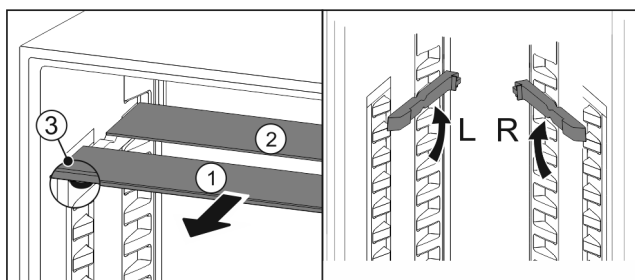

Fig. 78
- Pull the glass panels out Fig. 78 (1) from the front, one at a time.
- ▷ The glass panel Fig. 78 (1) and trim strip are at the front.
- ▷ The stops Fig. 78 (3) point down.